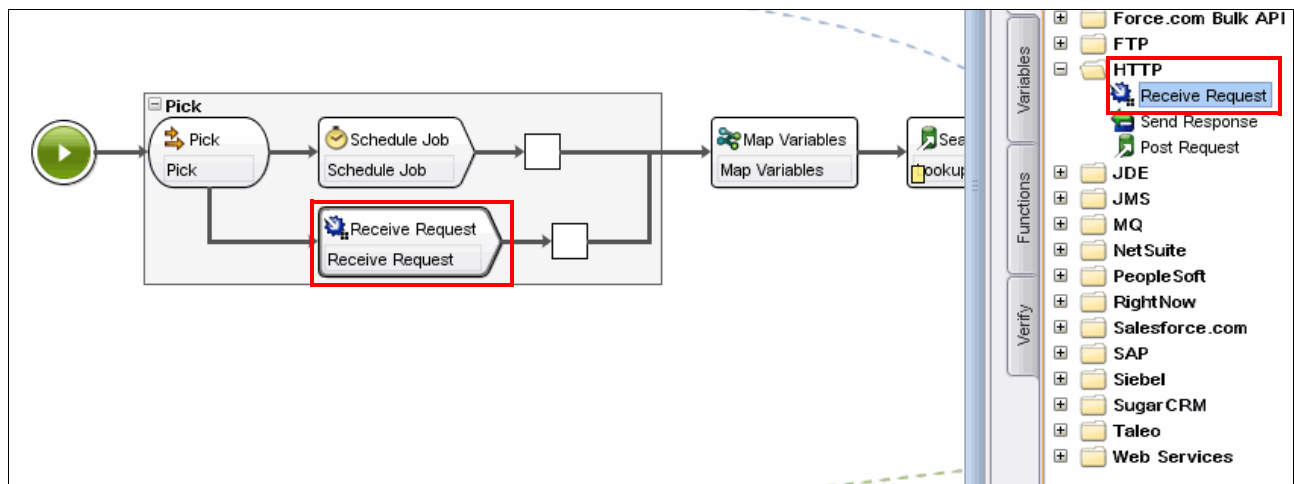

Figure 11-21 Pick group with HTTP Receive Request as a starter activity with Schedule Job
5. Open the HTTP section on the Activities tab, and drag the Receive Request activity to the remaining Add Starter Activity of the Pick group. Figure 11-21 shows the Checklist for the HTTP Receive Request activity.